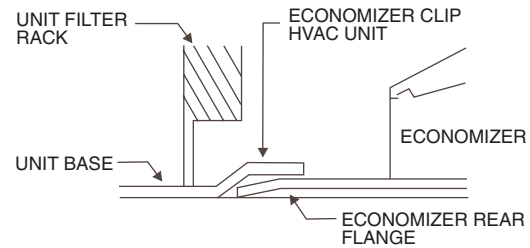

Fig. 37 — Rear EconoMiSer Flange Installation
7. Slide the EconoMiSer assembly into the rooftop unit. See Fig. 37 and 38.
NOTE: Be sure to engage rear EconoMiSer flange under tabs in return air opening of the unit base. See Fig. 37.